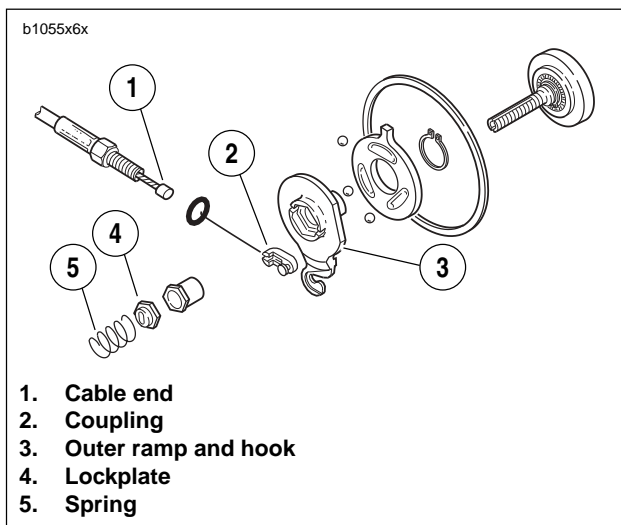

Figure 6-7. Clutch Release Mechanism
6. See Figure 6-7. Fit coupling (2) over cable end (1) with rounded side inboard and the ramp connector button outboard. With retaining ring side of ramp assembly facing inward, place hook of ramp (3) around coupling button and rotate assembly counterclockwise until tang on inner ramp fits in slot of primary cover.